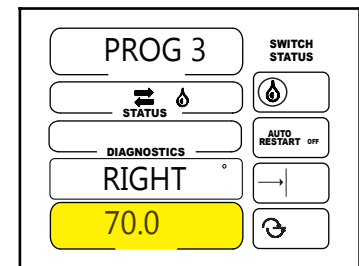

Figure 61-3
4. Set the right angle of the sector. See figure 61-3.